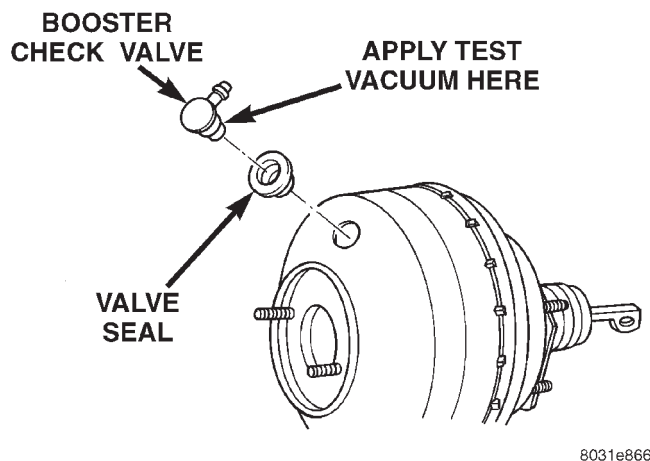

Fig. 5 Vacuum Check Valve And Seal
- (1) Disconnect vacuum hose from check valve.
- (2) Remove check valve and valve seal from booster.
- (3) Use a hand operated vacuum pump for test.
- (4) Apply 15-20 inches vacuum at large end of check valve (Fig. 5).
- (5) Vacuum should hold steady. If gauge on pump indicates vacuum loss, check valve is faulty and should be replaced.